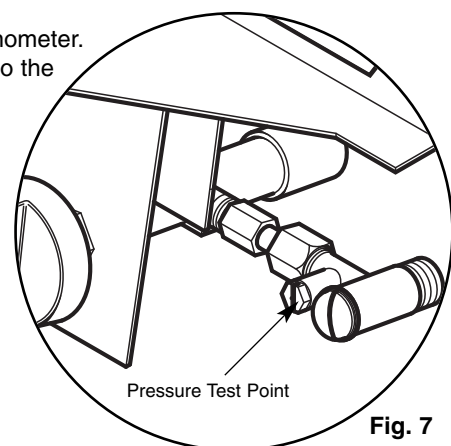

Fig. 7
1. Unscrew the pressure test point sealing screw (Fig. 7) and fit a manometer. Consult the user instructions (page 10). Ignite the appliance and turn to the high position.